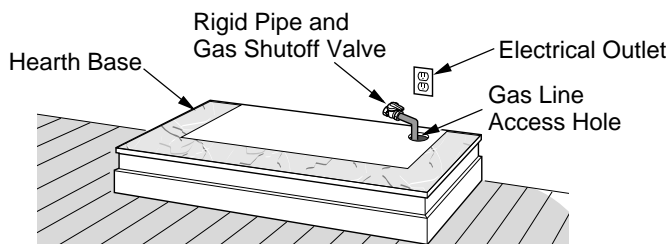

Figure 9 - Placing Hearth Base Accessory Against Wall
2. When installing blower, install a properly grounded, 120 volt three-prong electrical outlet at fireplace location if an outlet is not there. If possible, locate outlet so cabinet mantel will cover it when installed (see Figure 9).
4. Place hearth base accessory against wall at installation location. Cut an access hole in hearth top to run gas line to fireplace (see Figure 9). Make sure to locate access hole so cabinet mantel will cover it when installed. **Note:** You can secure base to floor using wood screws. Countersink screw heads and putty over.